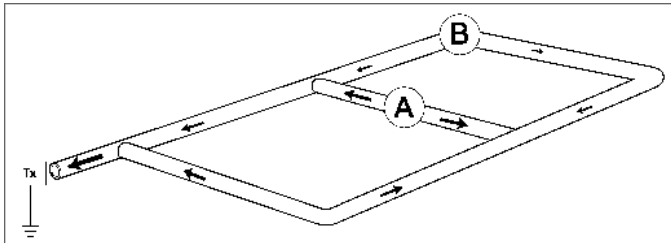

Fig. 7.5: Looped system 2
In practice, with pipes of different ages and coating the points reading zero (0) could be anywhere. The respective current readings will indicate the direction to follow – see Fig 7.5.